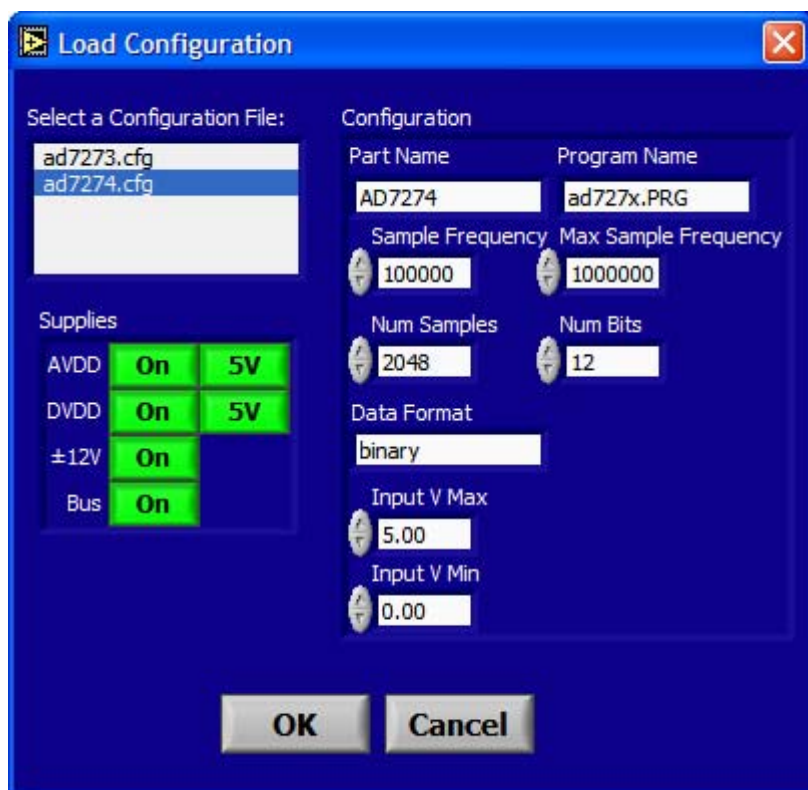

Figure 3. Load Configuration Window
The **Load Configuration** dialog box allows you to load the required configuration file for the evaluation board. A screenshot is shown in Figure 3. The configuration gives the software detailed information about the AD7273/AD7274 evaluation board and the part connected to the EVAL-CONTROL-BRD2, such as the number of bits, the maximum sampling rate, output coding, maximum sampling rate, and power supply requirements.
1. When the software is run, click the **Device Select** control button. This displays the **Load Configuration** window (as shown in Figure 3).